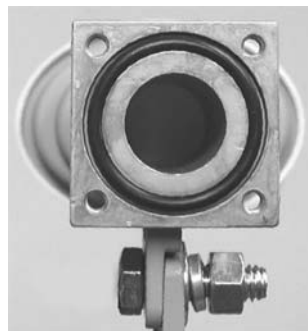

Figure 15: O-ring on back end of feed horn
3. Place the O-ring in the circular depression in the square end of the feed horn. See Figure 15.
7. Align the square end of the feed horn (Figure 15) with the square end of the TRIA.